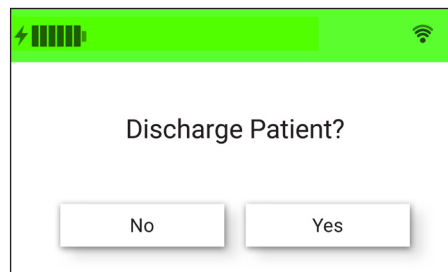

Figure 14. Confirm discharge screen
2. A confirmation screen will appear. Select Yes to discharge the patient. (Fig. 14)